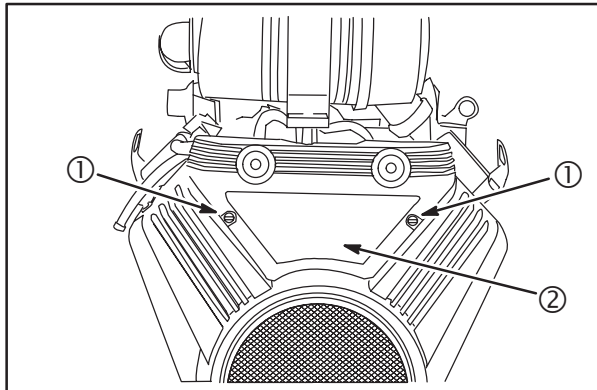

Fig. 26
1. Use a coin or screwdriver to twist the Easy Clean Access™ panel fasteners (1), **Fig. 26** COUNTERCLOCKWISE until a CLICK is heard (approx. 3/4 turn).
2. Remove the panel (2).